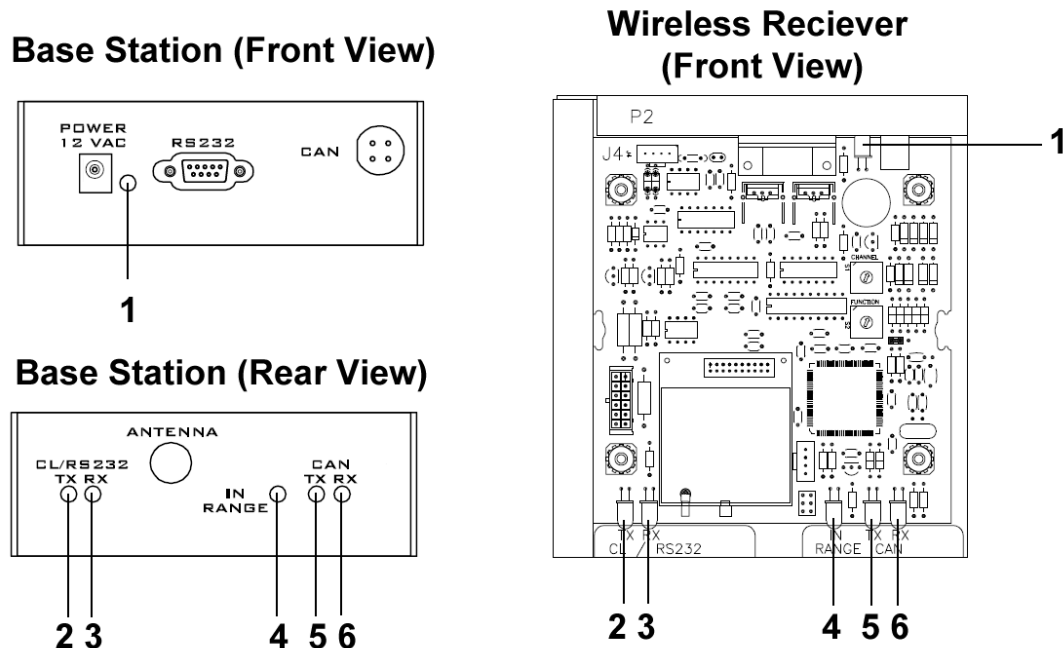

Figure 10: Wireless Base Station LEDs
Two server Base Stations cannot be powered up in the same area with the same channel setting, or they will interfere with each other. To avoid this, on power-up the server Base Station checks to see if there are any other servers located nearby. If another server is detected, the “IN RANGE” LED (**Figure 10**) will flash quickly to indicate interference, and continue to flash until the channel is changed or the conflicting Base Station is turned off.
When a Base Station is synchronized to a Sync Group, the “IN RANGE” LED (**Figure 10**) will flash briefly approximately every 5 seconds with the number of times flashed corresponding to the sync group: 1 = Channel 0, 2= Channel 1, 3=Channel 6, 4= Channel 11 (B).
The wireless Base Station circuit board includes several light-emitting diodes (LEDs) for diagnostic purposes, as shown in **Figure 10** and described in the table that follows.